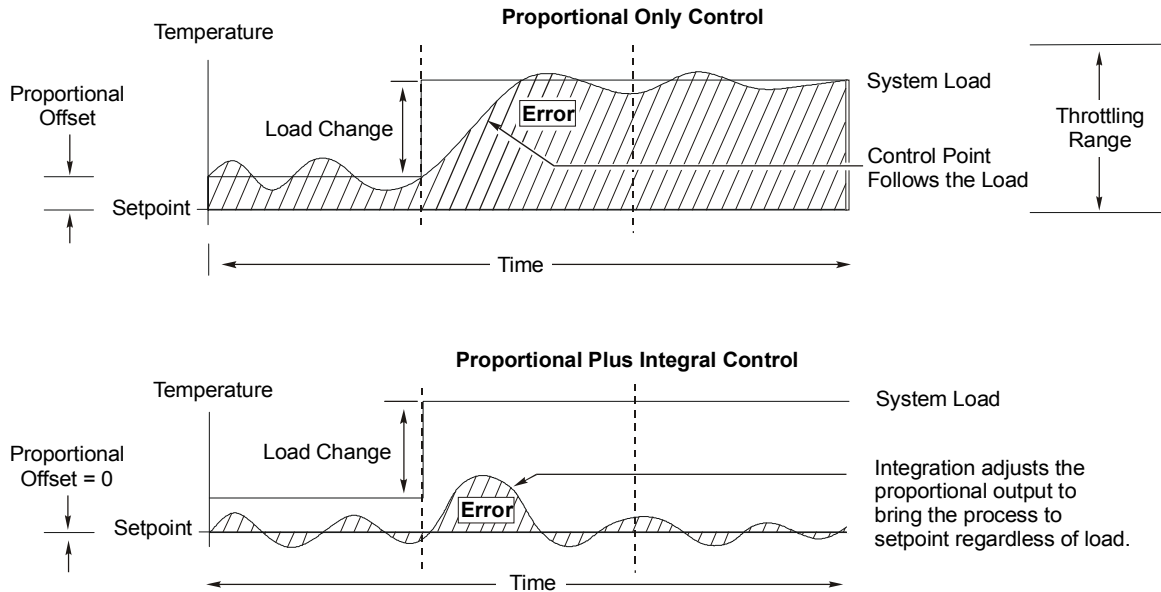

Figure 3: Operation of Proportional Only vs. Proportional Plus Integral Control
Proportional-only controls work by continuously adjusting the magnitude of the control's output signal in proportion to the difference (input-error) between the control's setpoint value and the actual value sensed in the controlled system. As load on a system increases, the input-error to the control increases. The control reacts by increasing the magnitude of the output signal, driving the controlled device to respond to the increased load. (See Figure 3.)
A disadvantage of proportional-only controls is they can not maintain a system process at the exact control setpoint. A proportional offset (or droop) is always present when there is a steady load on the controlled system. (See Figure 3.)
The result is that a proportional-only control maintains a system process at a control-point instead of the desired setpoint. Control-point is setpoint plus the proportional offset. The greater the load on the system, the greater the proportional offset and the further the control-point is from the system setpoint. A proportional-only control can not adjust the output signal to drive a system process from the control-point to the desired setpoint. (See Figure 3.)
The P352PN proportional plus integral (PI) pressure control incorporates integral (or reset) control action along with proportional-only control action. The advantage to this is that the PI design effectively eliminates proportional offset, and the PI control can adjust the output signal to not only match a steady load on the system, but also drive the system process towards setpoint. On a properly sized system with steady load conditions, a PI control can maintain the system process very close to the system setpoint. (See Figure 3.)